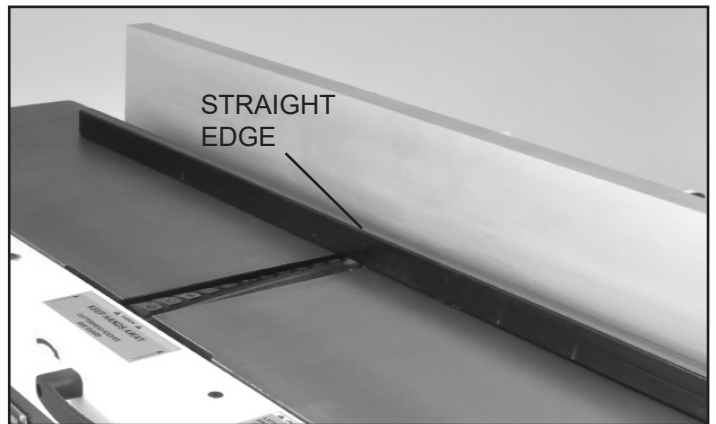

FIG. 21
1. Raise the infeed table to its highest, 0", level and use a metal straight edge to check its level flatness with the outfeed table. FIG. 21.
5. Once adjustments are made, the infeed table should be checked for flatness with the outfeed table with a straight edge. FIG. 21. This may require a few attempts to get the tables in alignment. When the infeed table is flat to the outfeed table, the hex bolts can be tightened to lock the settings.